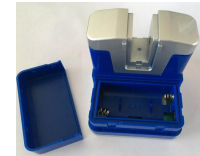

Figure 1
A. Remove the battery compartment cover on the rear of the device, as shown in Figure 1.